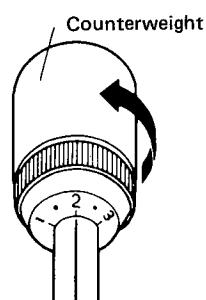

Figure 6
- (3) Turn the Counter Weight with the Tracking Force Dial counter-clockwise for the recommended value. (Figure 6)